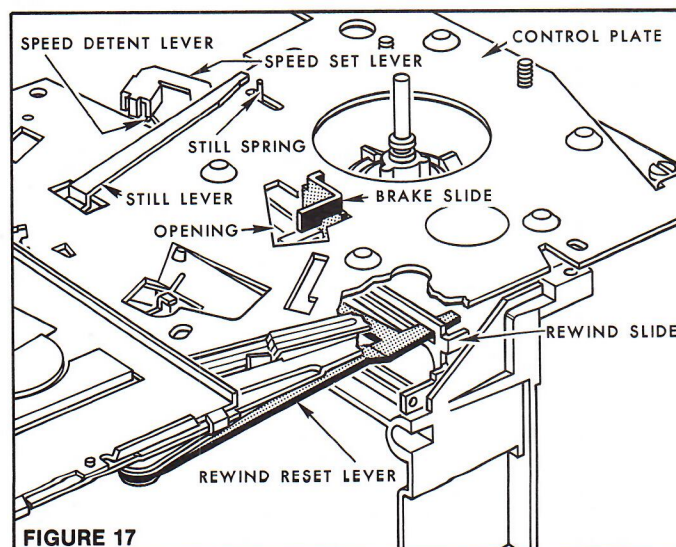

FIGURE 17
2. Slide the REWIND RESET LEVER through the slot in the REWIND SLIDE, Figure 17.
3. Place the BRAKE SLIDE through the OPENING in the CONTROL PLATE, Figure 17.
4. Place the box on the SPEED SET LEVER over the SPEED DETENT LEVER, Figure 17.
5. Place the STILL LEVER in front of the STILL SPRING, Figure 17.